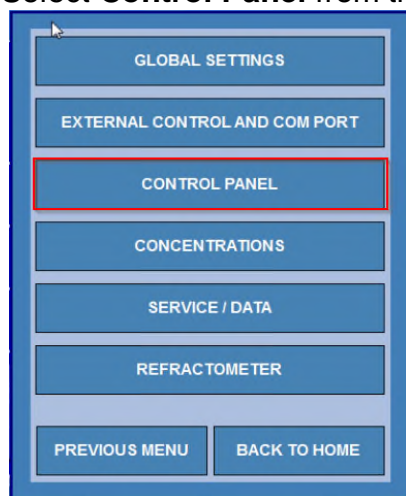

Figure 10.4 – accessing the Windows Control Panel
9. Select **Control Panel** from the Instrument Configuration menu (see Figure 10.4)